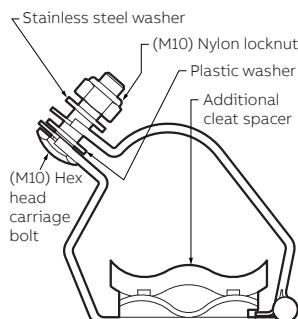

Figure 1
- Cleat locking hardware (Figure 1 - pre-assembled to cleat)